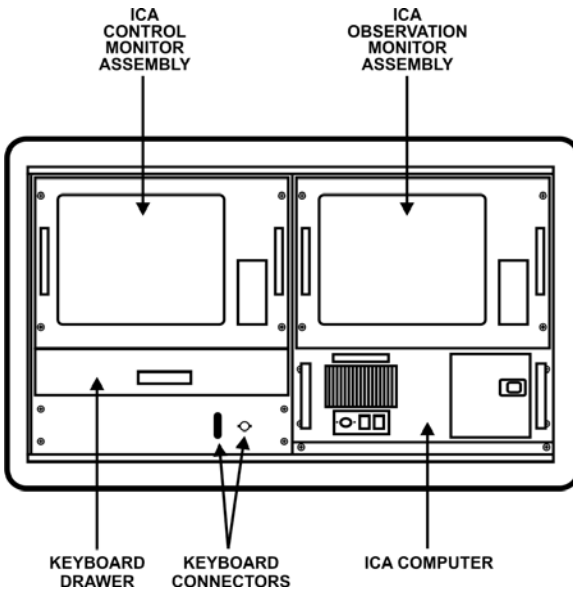

Figure 4-2: Instructor Case Assembly (ICA)
- b. Instructor Case Assembly (ICA)—137 kg (see Figure 4-2); and